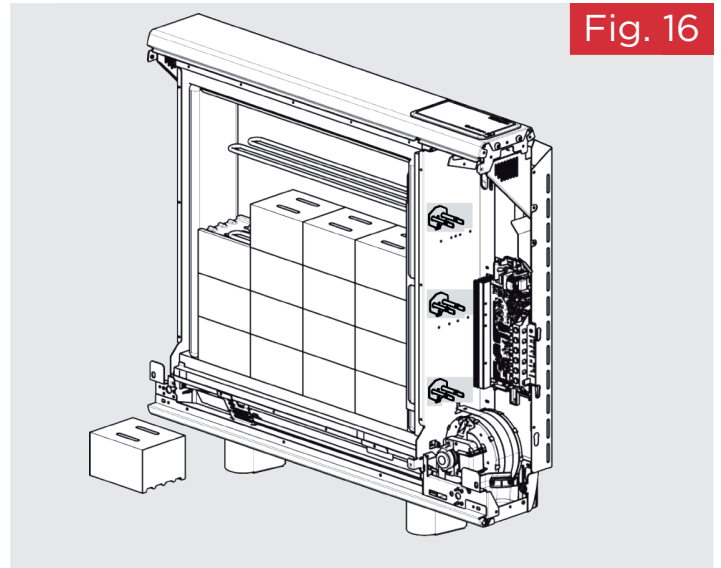

Fig. 16
16. Fit the fourth row of energy cells above the third row in the upside position. (Fig. 16). Repeat for the fifth and sixth rows of energy cells built around the third element to complete the core build.